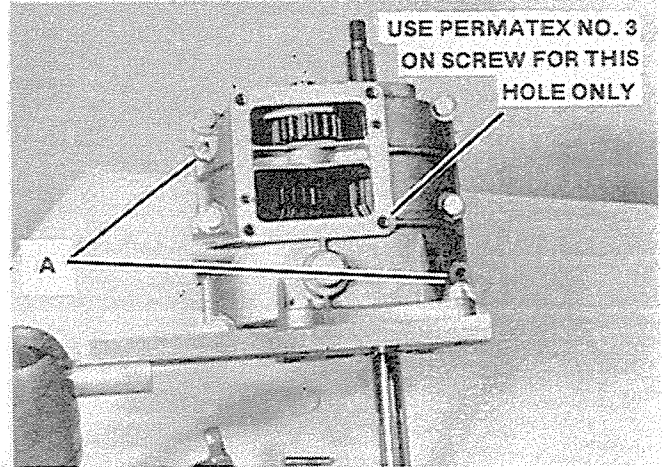
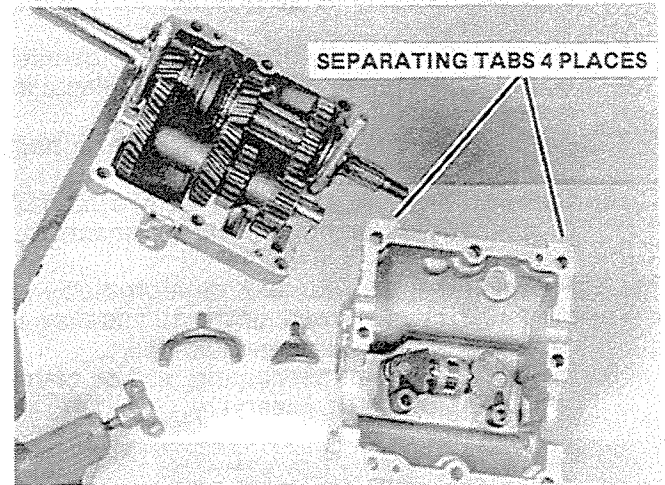

FIGURE 3
FIGURE 4
5. Remove both tapered locating pins from case. See A in Figure 3.
7. Remove the eight (8) retaining nuts and six (6) retaining screws that hold the two case halves together.
8. Separate the two halves. Do not insert any tool between case halves. Use hammer on separating tabs. Figure 4.